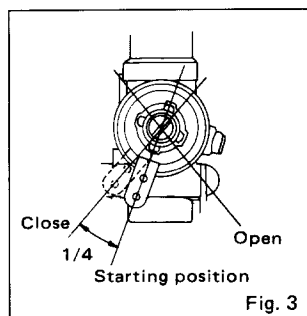

Fig. 3
2. Open the throttle so that the throttle-arm is at one-quarter of its full throw. (see Fig. 3).
2. Open the throttle so that the throttle-arm is at one-quarter of its full throw. (See Fig. 3)
1. Set the throttle lever 1/4 open from the fully closed position (see Fig. 3) and start the engine in the usual way. It is preferable to have the throttle only slightly open, to avoid unnecessarily high revolutions when the engine starts.